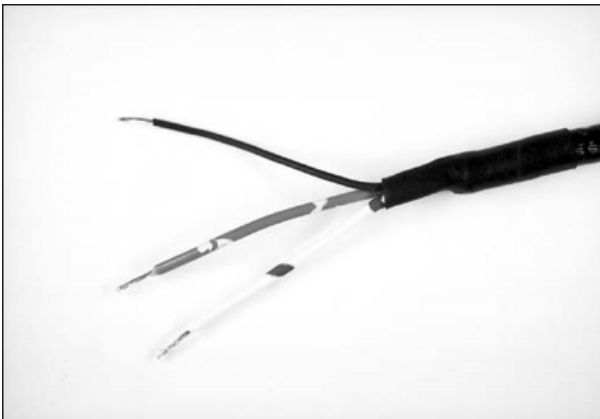

Figure 17 - Stripping Conductors
3. Cut away the foil shield. Strip the insulation from the conductors approximately 0.4 inch (1 cm) as shown in Figure 17.